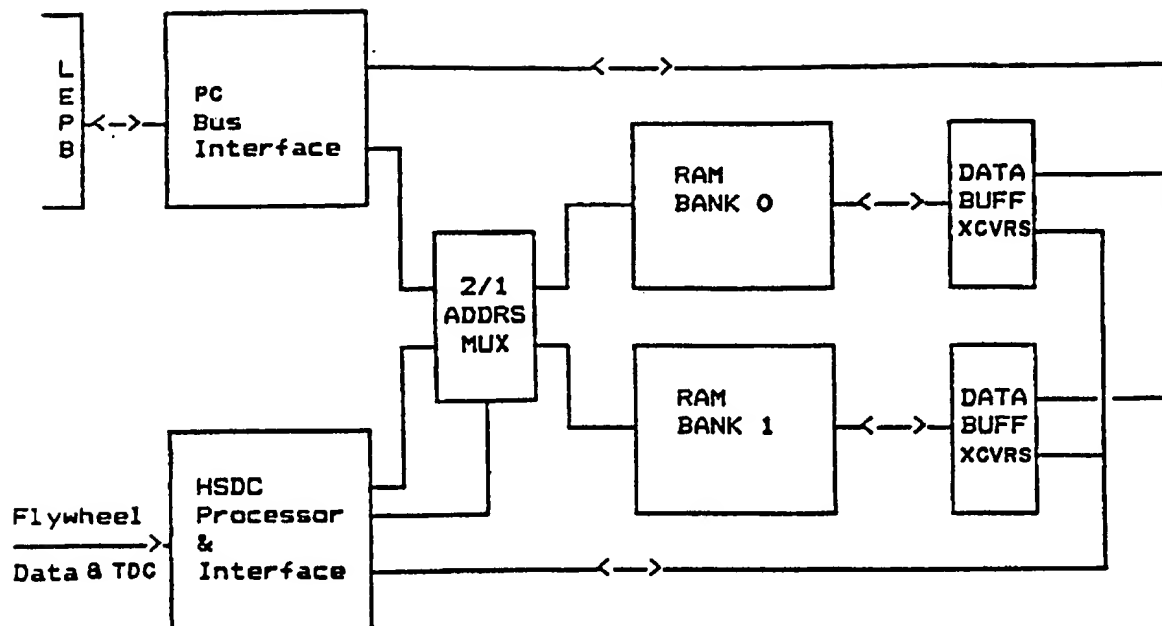
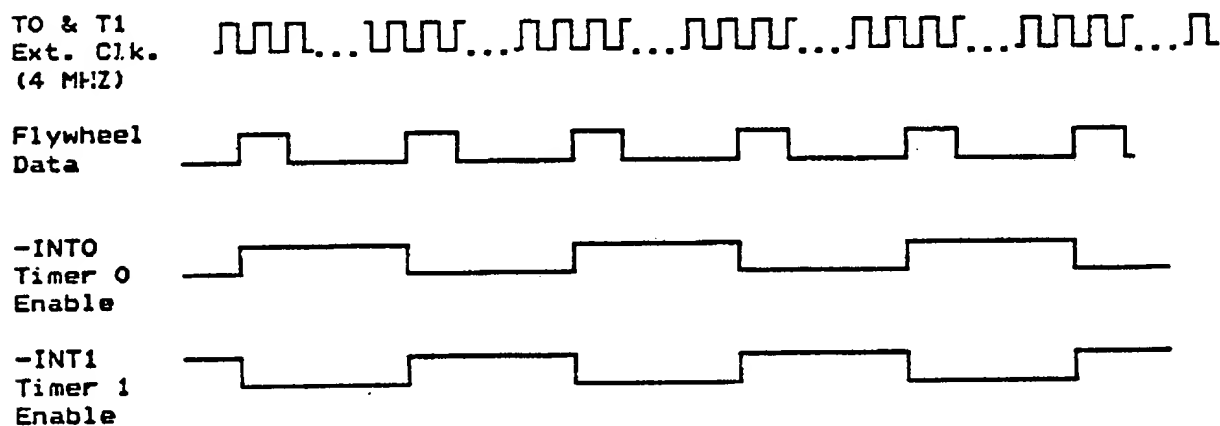
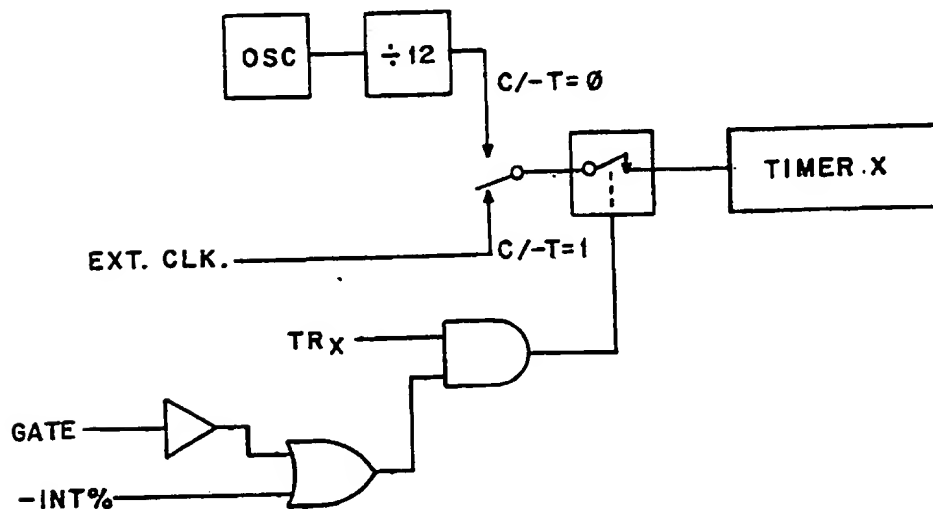

FIG. 1
FIG. 2
FIG. 3
- This article describes a high speed data card (HSDC) for an automotive engine analyzer which measures the period between adjacent flywheel teeth pulses and saves the result in a memory buffer. It serves as an interface between the flywheel gear and a personal computer (PC). \*\*\*\*\* SEE ORIGINAL DOCUMENT \*\*\*\*\* The basic function of the HSDC is to measure the period between adjacent flywheel teeth pulses and save the result in a memory buffer. For a flywheel gear with 150 teeth the HSDC saves 150 words (16 bits each) every crankshaft revolution. The engine analyzer main processor reads this data every crankshaft revolution and saves it in its main memory. The data is later correlated and processed with other engine data for engine performance analysis. The HSDC is an integral part of the engine analyzer and consists of an HSDC processor and interface, a dual random-access memory (RAM) buffer and PC bus interface. Fig. 1 is a high level block diagram of the HSDC. The HSDC processor is based on Intel's\* 8052 single chip microcontroller. The 8052 has all the following features onboard: (a) 8 bit CPU (b) 8K bytes of ROM (c) 256 bytes of RAM (d) 32 I/O lines (e) Three 16-bit timers/counters (f) Five source interrupt structure with two priority levels (g) Full duplex serial port (h) Boolean processor The HSDC processor performs the flywheel data measurement using two 16-bit internal counters. In addition, it arbitrates access control of the dual memory buffer between it and the main processor. Fig. 1 shows the connectivity of the 8052 to the flywheel signal for flywheel data measurements. The flywheel signal is divided by 2. The \*\*\*\*\* SEE ORIGINAL DOCUMENT \*\*\*\*\* output signal and its complement feed the external interrupt inputs (INT0 and INT1) of the 8052. Fig. 2 shows the flywheel signal with the interrupt inputs. The 8052 is configured in a special mode where -INTX (INT0 and INT1) inputs enable TIMER X (timer0 and timer1). Fig. 3 depicts the circuit within the 8052 gating the timers with the external interrupts. The timers are set up to operate as counters (bit C/-T =1); allowing it to count the external input clock (Ext Clk). Timer0 and timer1 operate on a 4 MHz external clock. The TRX and gate bits are set in software, enabling the counters when the corresponding interrupt input is high. With the interrupts programmed in the edge-triggered (high to low transition) mode, the 8052 is prompted to save the value of the corresponding counter in memory when the interrupt line is active. That is, during INT0, TIMER 0 value is saved in memory before clearing the timer and getting it ready for the next cycle. For example, consider a flywheel gear with 150 teeth and running at 2000 rpm. The value in the timer on interrupt will be: (4000000 counts/sec) / (2000 rev/min x 150 teeth/rev x 1min/60 sec.) = 800 The top dead center (TDC) signal is also an interrupt input to the 8052. On every TDC signal the 8052 switches the memory access control signal between RAM bank0 and bank1. For example, if the 8052 has access to bank1 and the main processor has access to bank0, on the next TDC this access control is switched. The 8052 performs other tasks including Power-On Self Test (POST), handshaking with the main processor for configuration parameters and error
control, and background diagnostics. Fig. 4 is a functional flow chart illustrating the major tasks of the HSDC processor. The dual RAM buffer consists of bank0 and bank1. Each bank consists of two 8K x 9 static memory modules. This arrangement allows for either memory transfers with the main processor or 8-bit transfers with the 8052. The ninth bit is used as a parity bit for data integrity. The transceivers (XCVRS) shown in Fig. 1 perform the added function of parity generation on memory writes and parity checking on memory reads. In case of parity error, the parity logic block latches the error and informs the corresponding processor which will later reset the error latch. Access to a memory bank is multiplexed between the 8052 and the main processor using address multiplexers. The multiplexing control is generated by the 8052 and toggled every TDC. The PC interface consists of buffers, address latches, and address decode and read/write logic specific to the Micro Channel\*\* bus. \* Trademark of Intel Corp. \*\* Trademark of IBM Corp.